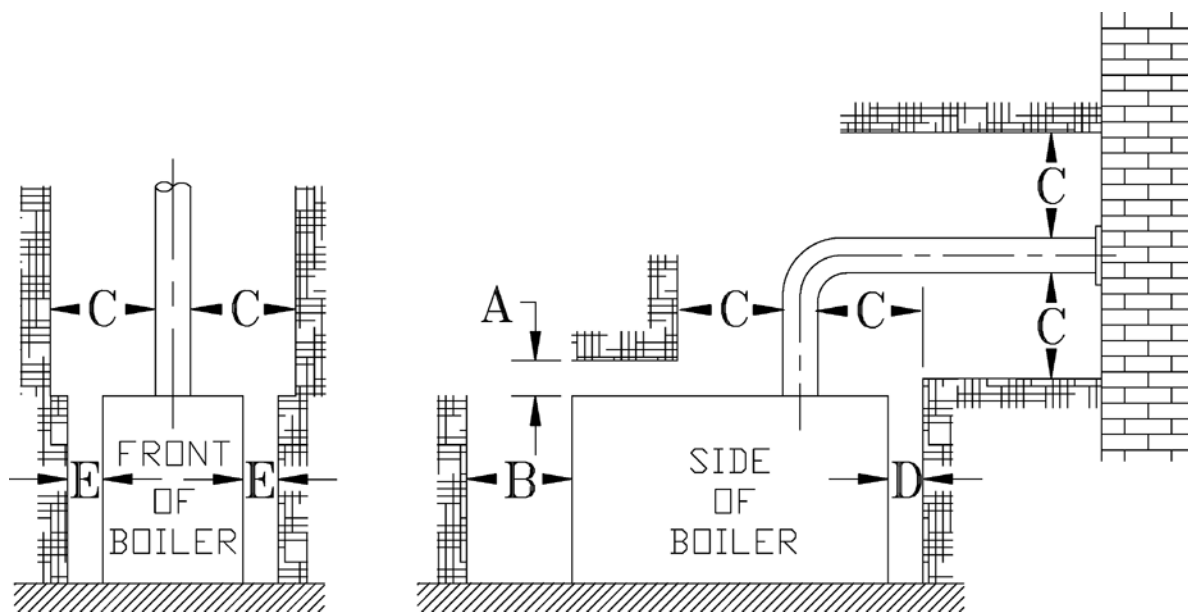

Figure 3: Minimum Installation Clearances To Combustible Materials (Inches)
- For minimum clearances to combustibles materials. See Figure 3.